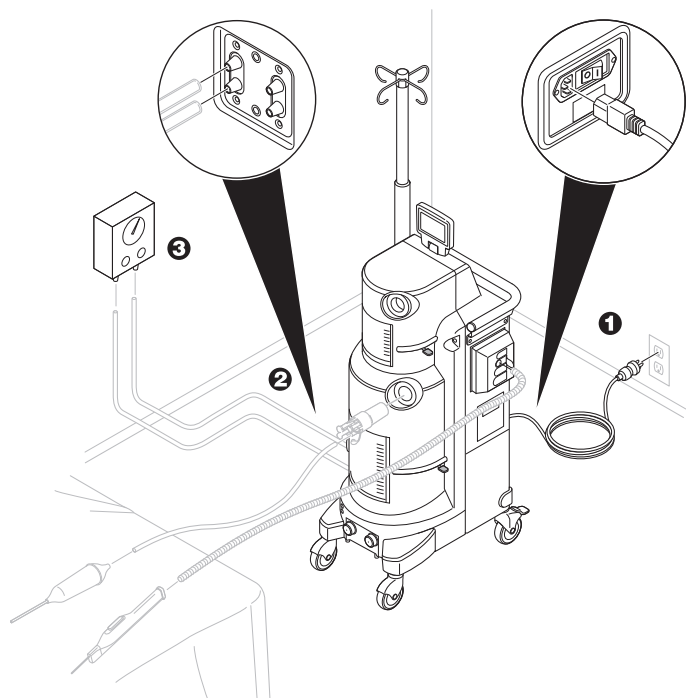

Figure 14 To Connect Facility Vacuum Source
1. Verify the rover is connected to facility power and the power switch is in the ON position (see figure 14).